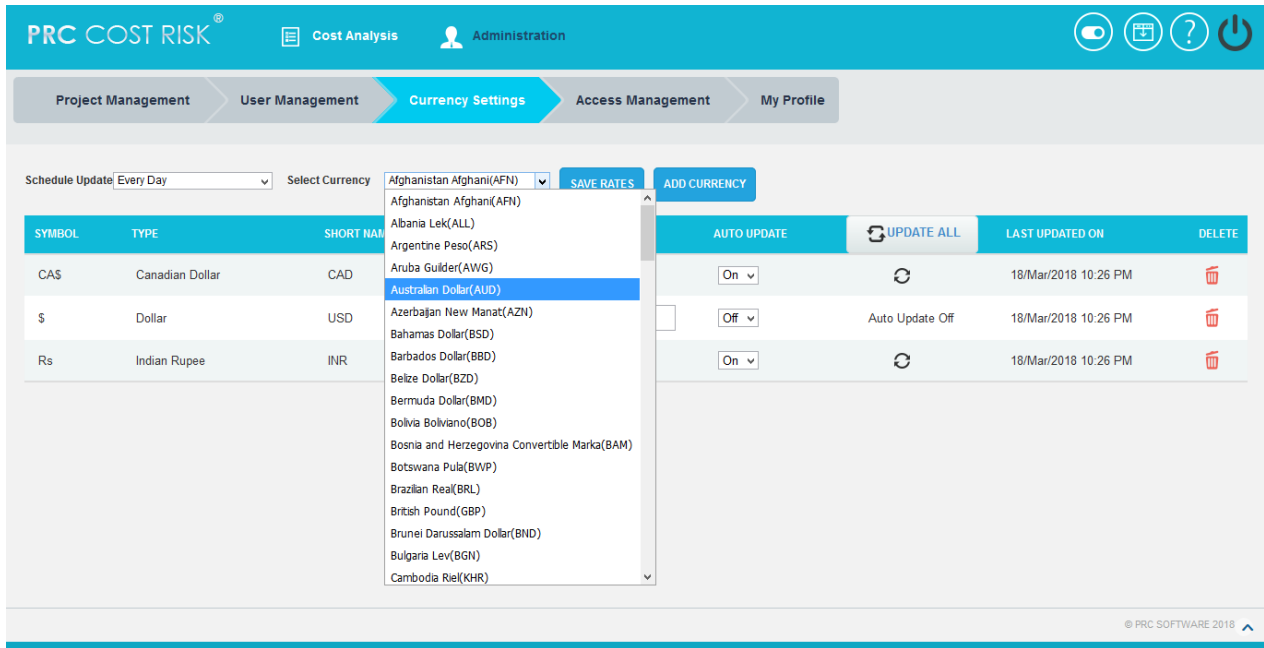

Figure 1.30
2. Click the **Select Currency** dropdown that shows the list of currencies in alphabetical order as in <http://openexchangerates.org/api/currencies.json> link. (Figure 1.30)
3. Select the currency to be added in the application. (Figure 1.30)
4. Click the **ADD CURRENCY** button. (Figure 1.30)
2. Click **Delete icon** corresponding to each currency. (Figure 1.30)